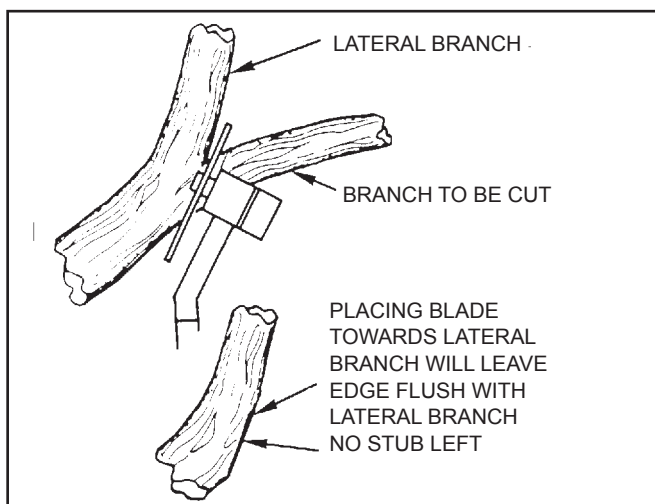
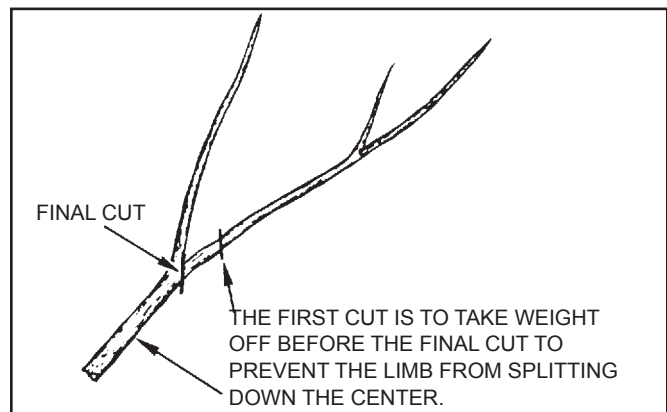

Figure 4. Flush Cutting a Limb That Might Split or Tear.
Figure 5. Flush Cut
4. In sawing limbs which have a tendency to split or tear when making a single saw flush cut, Figure 4, it is advisable to make more than one cut. The first cut is made a few inches from the point of the flush cut removing the weight of the limb being trimmed out and leaving a short stub. The stub is then flushed off as shown in Figure 5. Whenever practical, the cut shall be treated with tree paint if it is larger than 1 inch in diameter. This technique will avoid breaking the lateral which you are trying to save or splitting the remaining limb down the center as the flush cut is made.